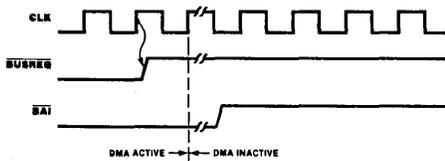

Figure 16. Bus Release (Byte-at-a-Time Mode)
**Bus Release Byte-at-a-Time.** In Byte-at-a-Time mode,  $\overline{\text{BUSREQ}}$  is brought High on the rising edge of CLK prior to the end of each read cycle (search-only) or write cycle (transfer and transfer/search) as illustrated in Figure 16. This is done regardless of the state of RDY. There is no possibility of confusion when a Z-80 CPU is used since the CPU cannot begin an operation until the following T-cycle. Most other CPUs are not bothered by this either, although note should be taken of it. The next bus request for the next byte will come after both  $\overline{\text{BUSREQ}}$  and BAI have returned High.